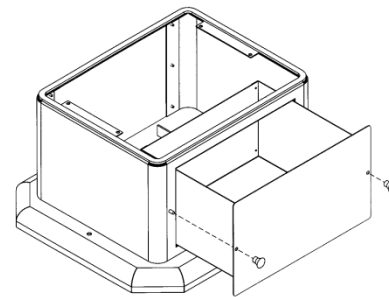

FIGURE 24
- Periodically remove and empty ash bin (see Figure 24) by unscrewing the two knobs on the front of the pedestal below the ash lip. Dispose of ashes properly. (See "**ASH REMOVAL**" above)